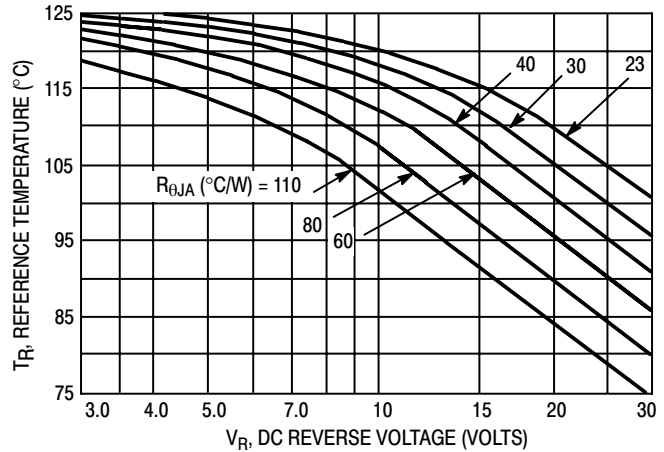

Figure 2. Maximum Reference Temperature
Step 2. Find  $T_R$  from Figure 2. Read  $T_R = 109^\circ\text{C}$  @  $V_R = 9.2 \text{ V}$  and  $R_{\theta JA} = 80^\circ\text{C/W}$ .